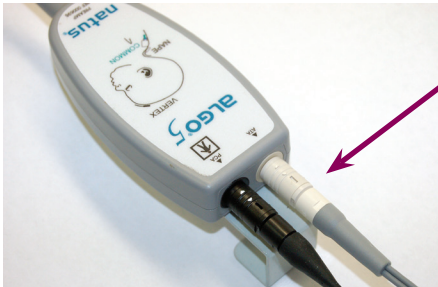

FIGURE 6
- a. Ensure that the earphone cable (ATA 5) is properly attached to the screener (Refer to Figure 6). Also check that the earphone cable transducers are securely attached to the earphones.